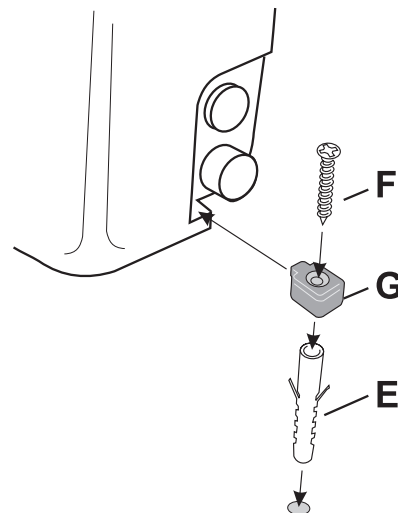

Fig.2
- 1.3 Position the Powerflush™ and fix to the floor using the Dowel Floor Fixings (E), Fixing Screws (F) and the Ground Fixings (G). (See Fig. 2)